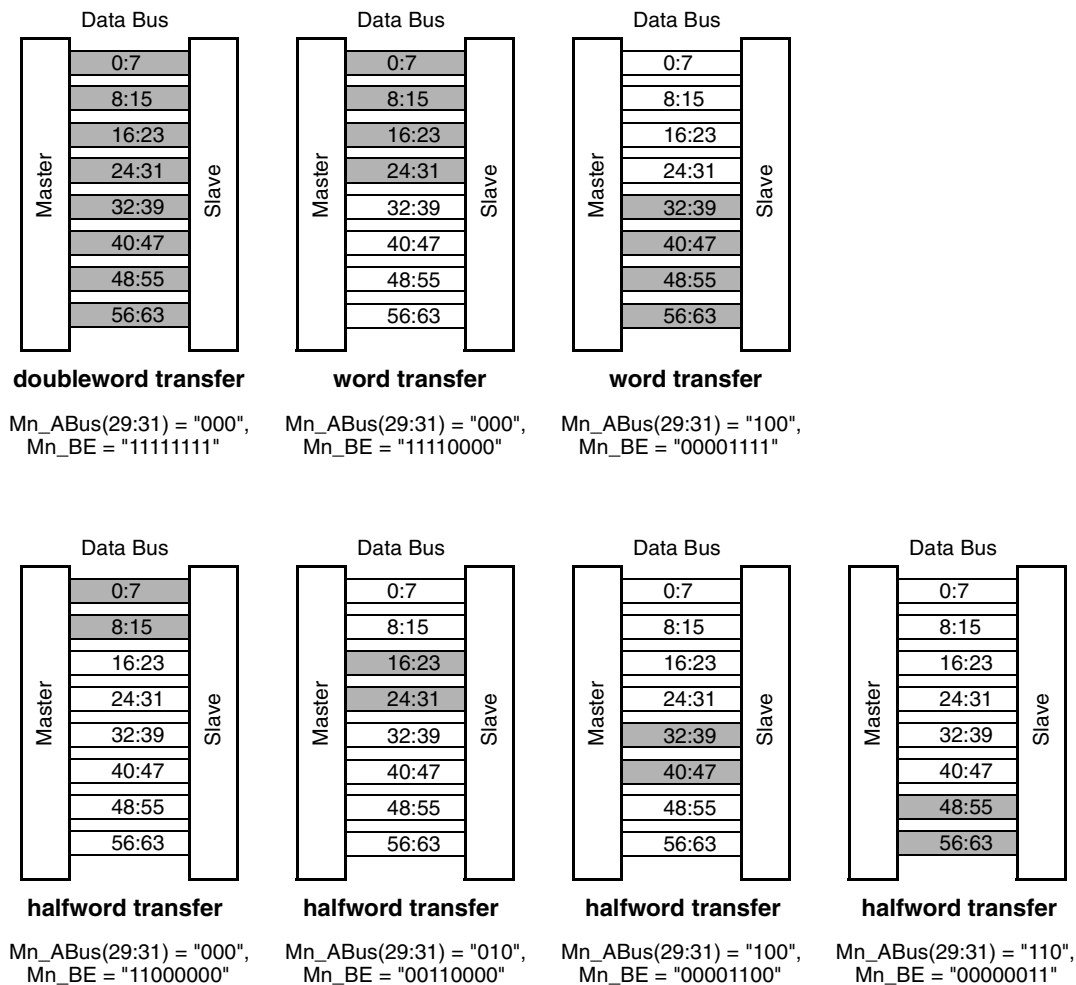
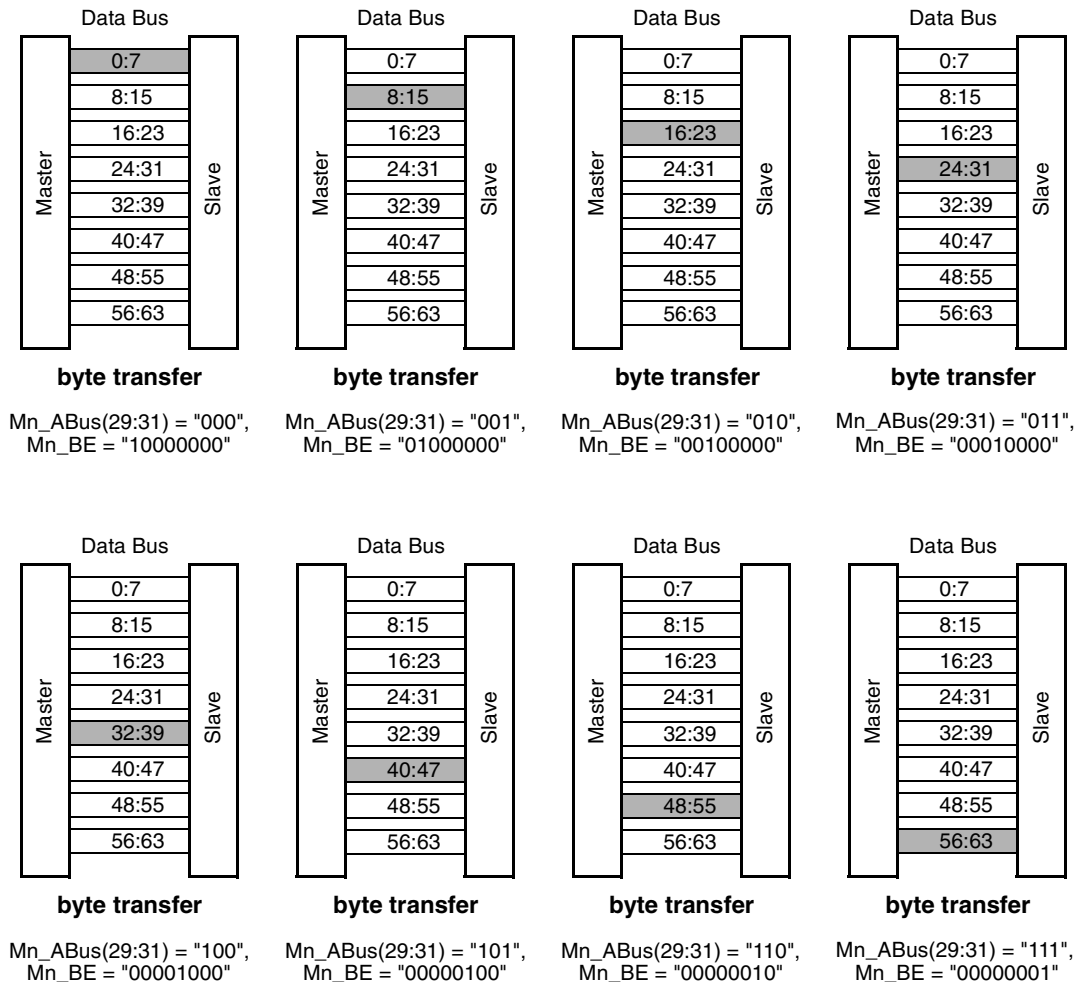

Figure 2-1: Byte lane usage for aligned doubleword, word, and halfword transfers
Figure 2-2: Byte lane usage for byte transfers
- PLB masters are not required to support dynamic bus sizing. PLB masters are not required to mirror data to unused byte lanes. See Figure 2-1 and Figure 2-2 for the byte lane usage for aligned transfers. PLB Masters are required to correctly drive the <Master>_MSize[0:1] signals. PLB slaves are required to correctly drive the <Slave>_SSize[0:1] signals for PLB masters that do provide conversion cycles (such as the PowerPC 405).
- The byte-enables and the least-significant address bits are driven by all masters and contain consistent information. Examples of byte lane usage for aligned transfers are shown in Figure 2-1 and Figure 2-2.